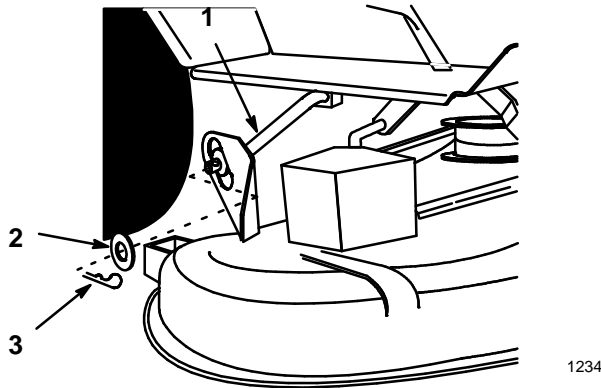

Figure 5
5. Place rear guide bushings, first left side then right, onto lift arms then slide deck left into position (Fig. 5).
6. Secure deck to rear lift arms with washers and (2) 3-3/8" hairpin cotters (Fig. 5).